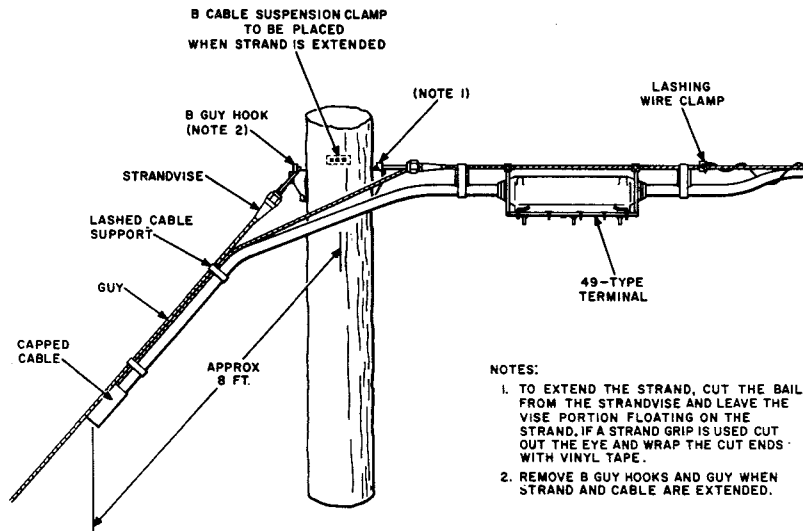

Fig. 29—Extending Strand at Dead-end Termination
7.01 Where there is a possibility of future extension, terminate the strand as shown in Fig. 29.